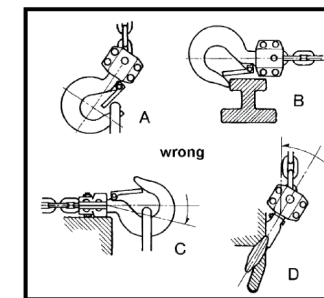

FIG 5
- Never load the hook in front of the safety latch (A, FIG 5).
- Never load the hook tip (B, FIG 5).
- Never load the hook off the centerline (C, FIG 5).
- Never load the hook sideways (D, FIG 5).